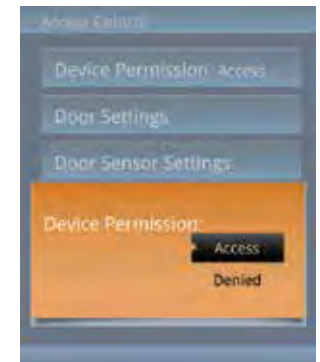

Fig 5.02-1
- From the Access Control menu, use the **▲** or **▼** keys to highlight the Device Permission menu option. Touch **OK** to enter the Device Permission: menu shown in *Fig 5.02-1*.